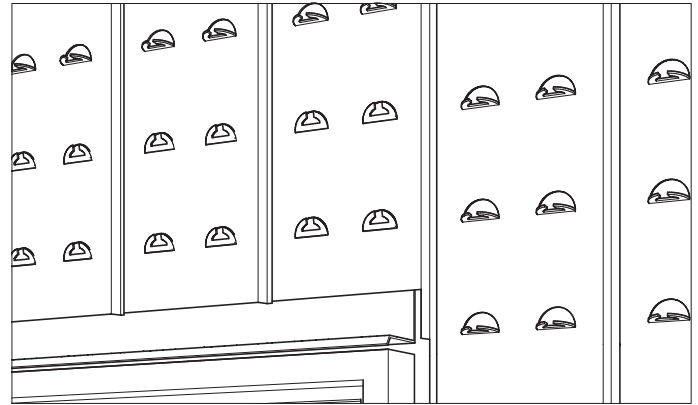

FIGURE 13
- To create a soldier course, flatten rows of support ties that will be behind (but not above and below) the soldier course so that the brick can lie flat against the support panel and install brick vertically following procedure described above (see Figures 13 and 14).